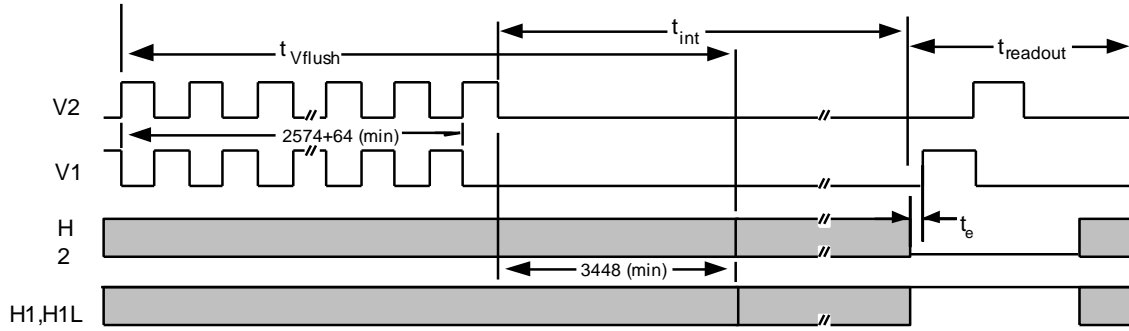

Figure 18: Power-up Flush Cycle
6. See Figure 18 for a detailed description.